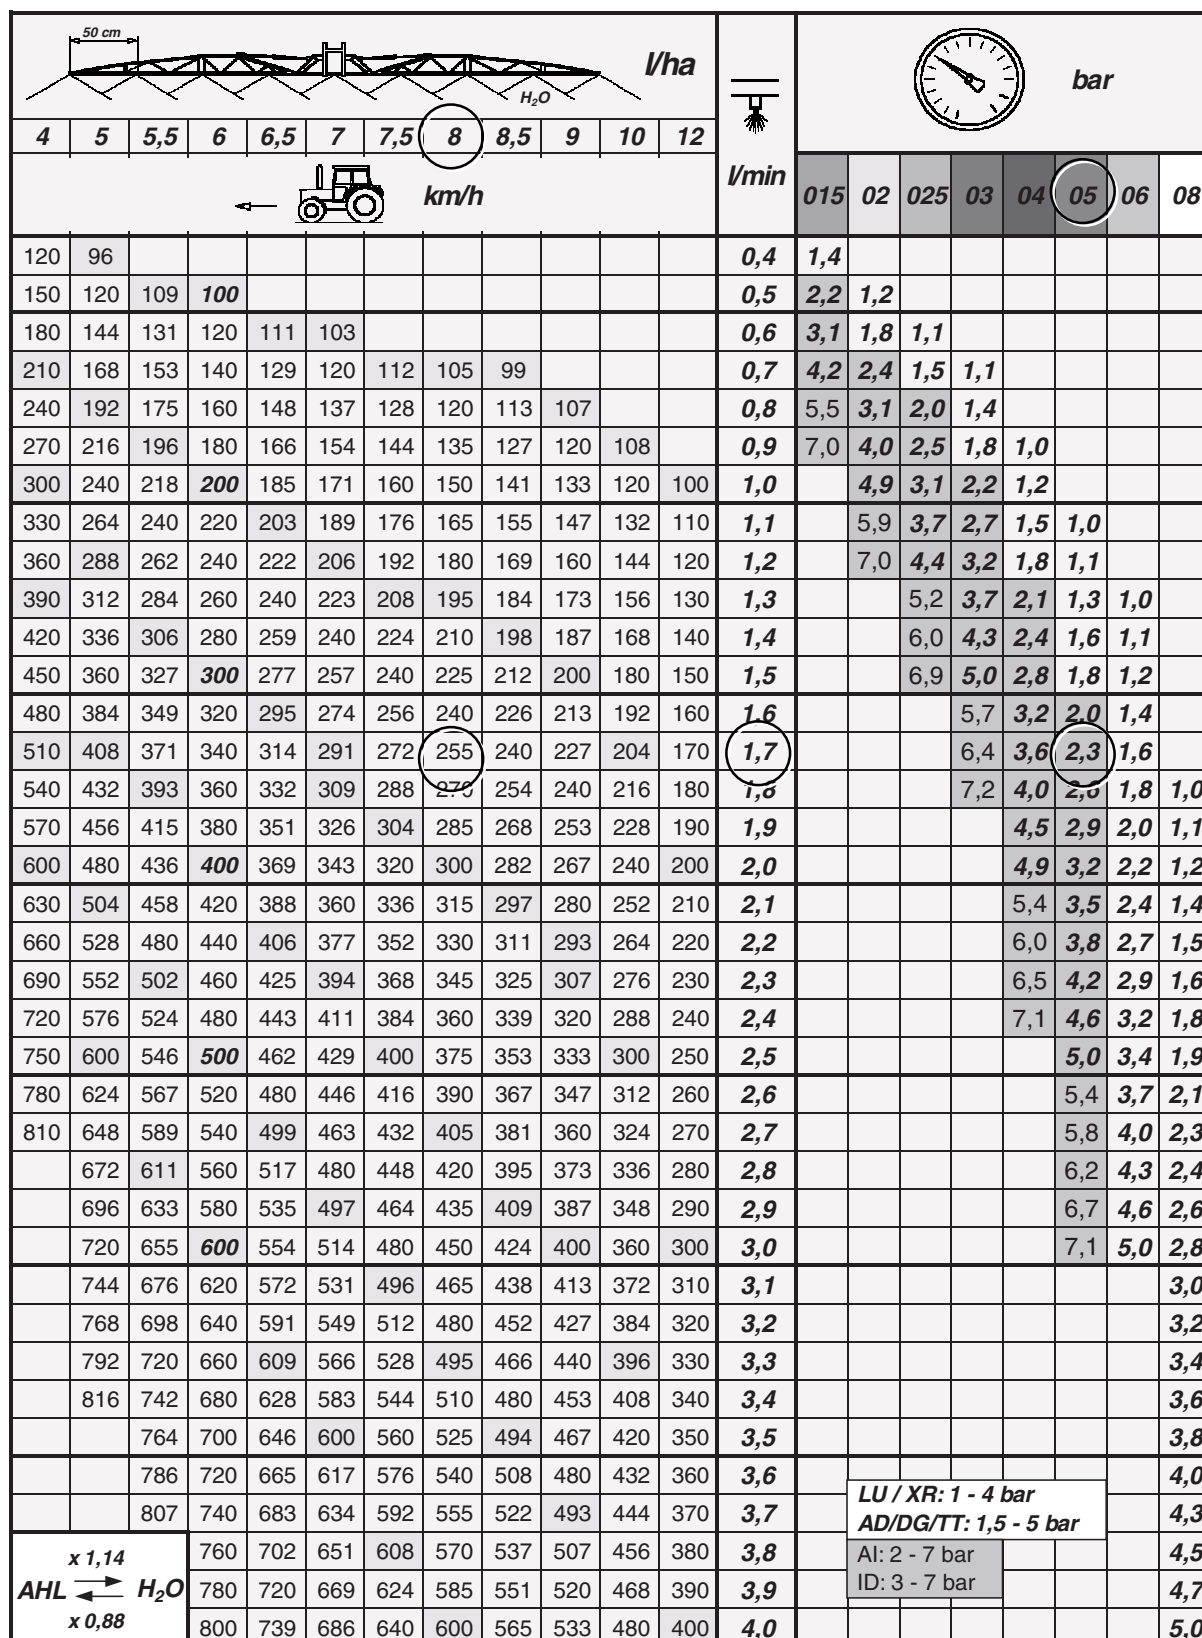

Fig. 128
- The Fig. 128 serves for
4. go over to the spraying table (Fig. 128).